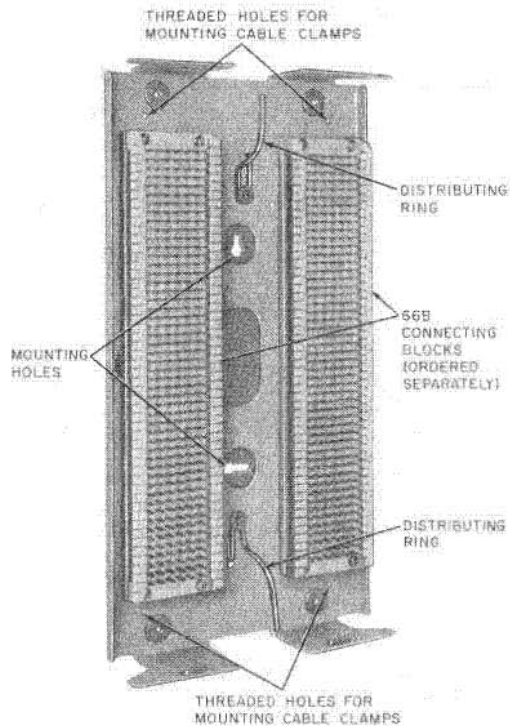

Fig. 2—Typical 115-Type Apparatus Box With Distributing Rings and Connecting Blocks Installed
2.03 The 115-type apparatus box (Fig. 2) is intended for use as a terminating and distributing point in buildings. It is equipped with a snap-on cover, distributing ring(s), and screws for mounting 66-type connecting blocks which must be ordered separately. For further information on the 115-type apparatus box, refer to Sections 461-604-101, 461-604-102, and 463-121-115.